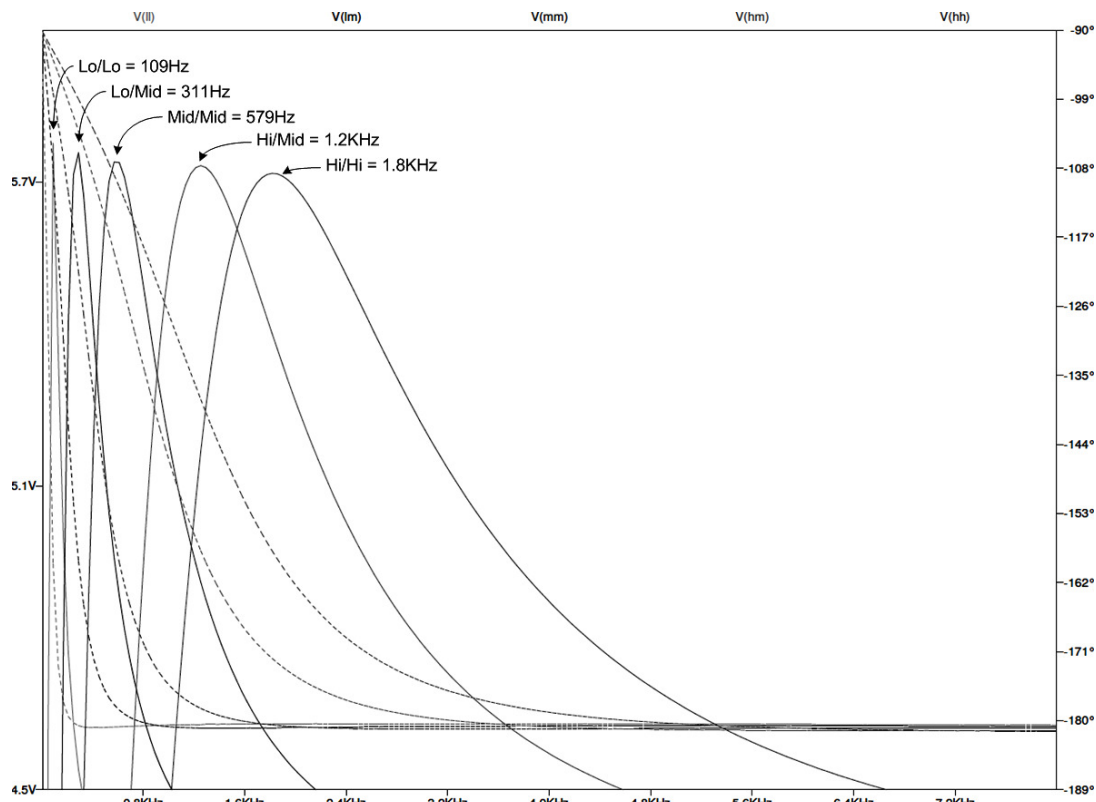

Figure 6. Filter Frequency Response (Adjusted to Lowest Frequencies, trim-pots clockwise)
- Using a small flat screwdriver, turn all trim-pots on the main PCB all the way counter-clockwise. This sets the sensitivity of all filters to minimum, and center frequencies to the highest end of their ranges (see Figures 6 and 7).
- Adjustment of the center frequency pots (HH-CTR through LL-CTR) is not strictly required, you can simply leave these turned all the way counter-clockwise if you choose to, and the frequencies responses of the filters will be as shown in Figure 6. But if you do want to alter the center frequencies of the bands, then you can do so by adjusting the 'xx-CTR' trim-pots. You can use a function generator, or just some musical instrument like a guitar or keyboard to tune your filter center frequencies.